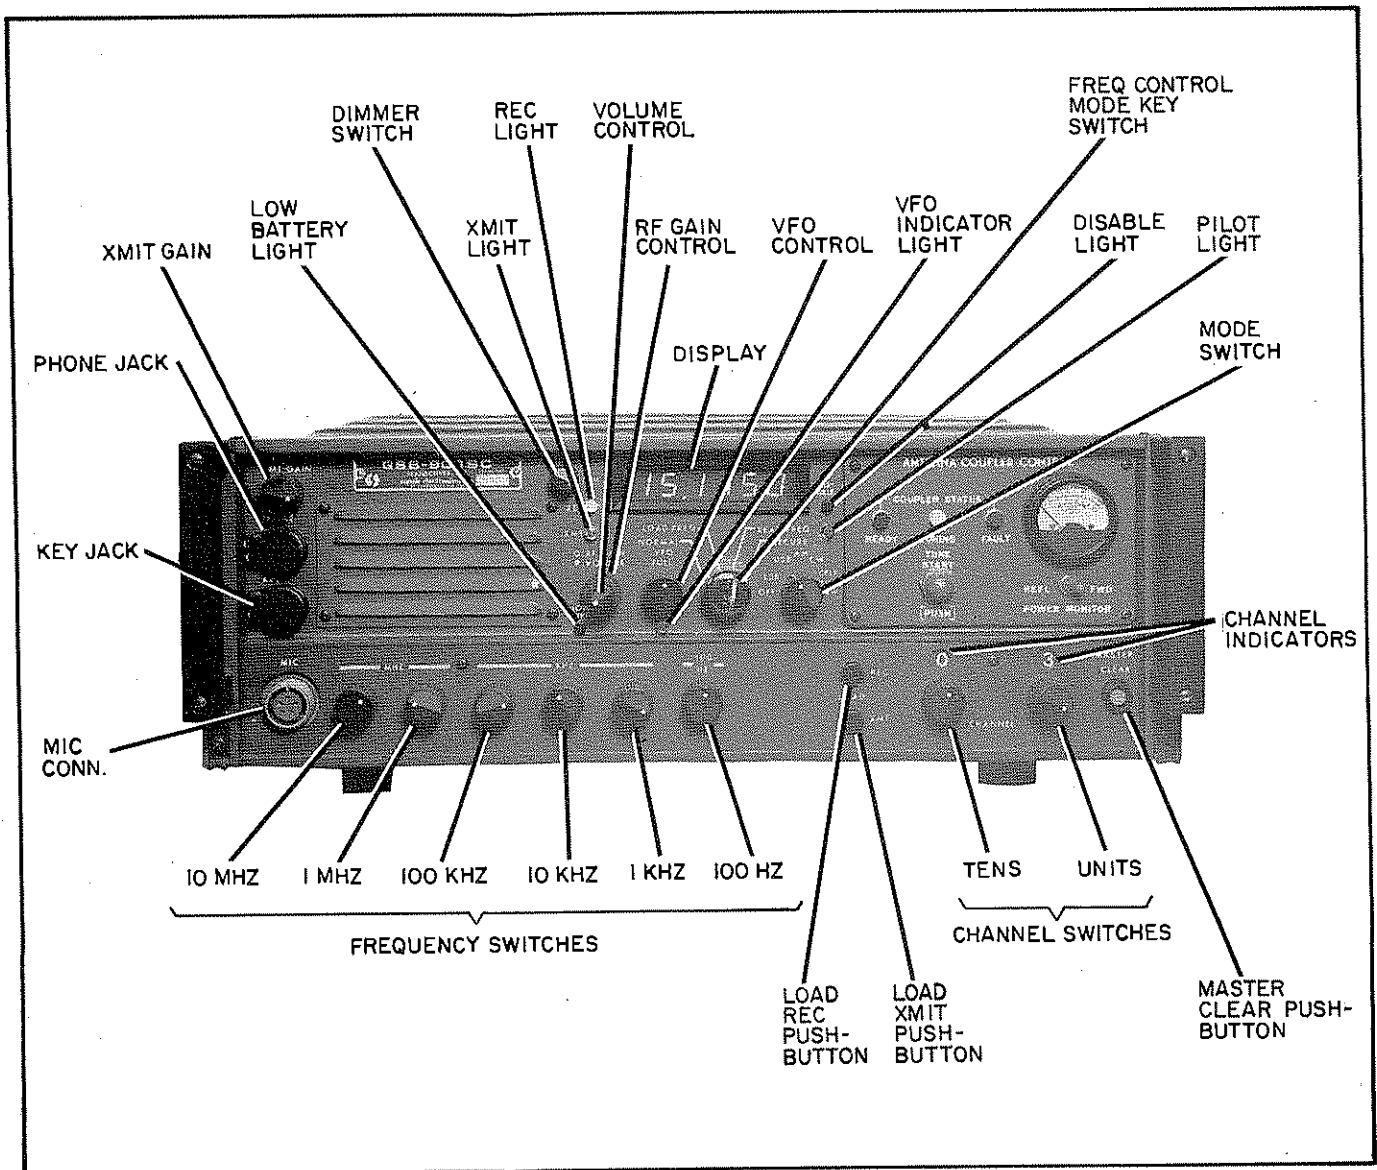

Figure 3.1 GSB-900SC Transceiver Front Panel
3.2.1 Listed in the next pages are descriptions of all controls, indicators and connectors located on the Secure Channel front panel. They are illustrated in Figure 3.1.